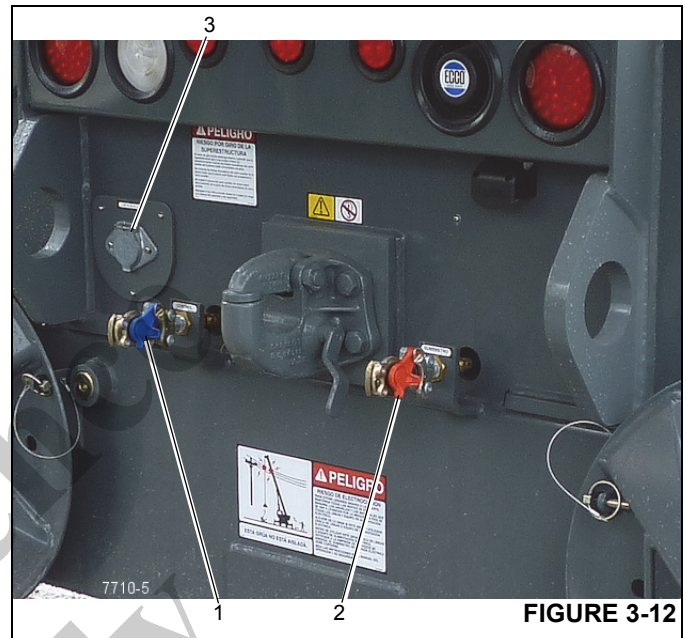

FIGURE 3-12
5. Connect the control connector (blue) (1, (Figure 3-12)) to the rear of the crane.
6. Connect the brake supply (red) connector (2) to the rear of the crane.
7. Connect the electrical cable (3) to the crane.